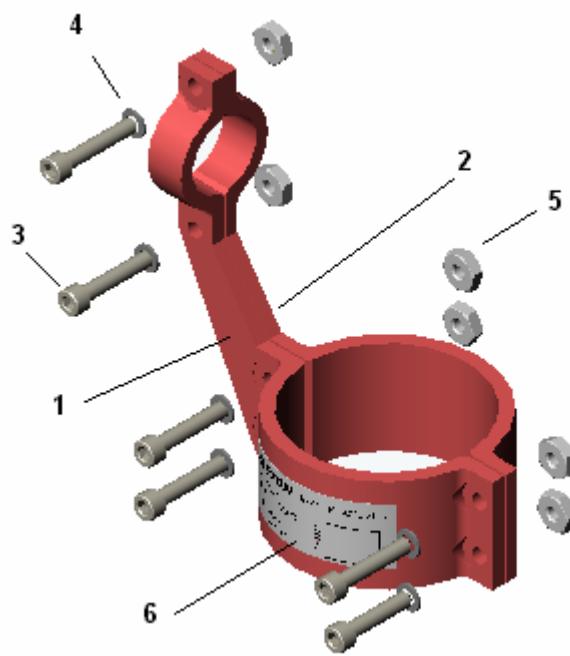

Figure 2
- (1) Separate the left and right halves of the bracket assembly and place the halves in position around the area to be reinforced as shown in Figure 2.
- (2) Align the two halves to firmly clamp the required components.
- (3) Install flat washers onto the socket head cap screws.
- (4) Install the six socket head cap screws through the holes in both halves of the bracket from either side of the bracket.
- (5) Apply Loctite 290 or equivalent thread locking liquid to the threaded portion of the socket head cap screws protruding from the side of the bracket.
- (6) Attach hex nuts to the socket head caps screws and torque to 18 +/- 2 inch pounds (2.0 +/- 0.25 N-m). Torque screws evenly to ensure consistent spacing between bracket halves and uniform loading of clamped components.